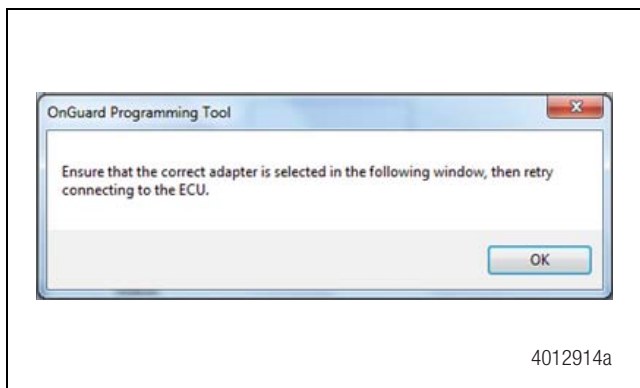

Figure 4
- B. Select "OK" in the following window. Figure 4.